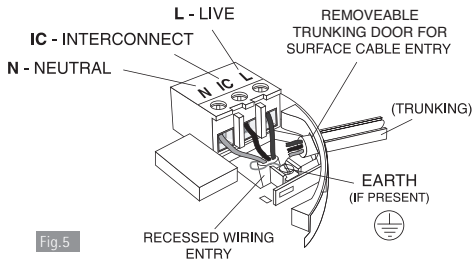

Fig.5
IC: Interconnect - see figures 5 and 6 and further information in Section 2.6.
4. If the mains wires are recessed, bring the wires through the rear hole in the mounting plate as shown in Figure 5.
(a) position the mounting plate so the cable trunking is as shown in Figure 5.